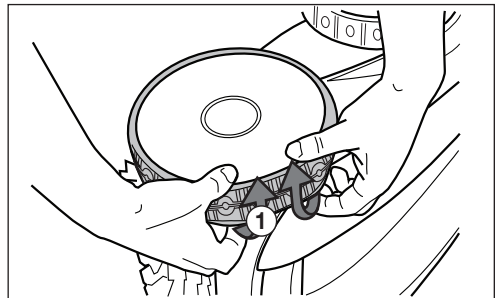

Figure 29. Pull the Old Tyre Over the Wheel
1. Pull on the inside of the old tyre to remove the tyre lip from the wheel. See *Figure 29*.